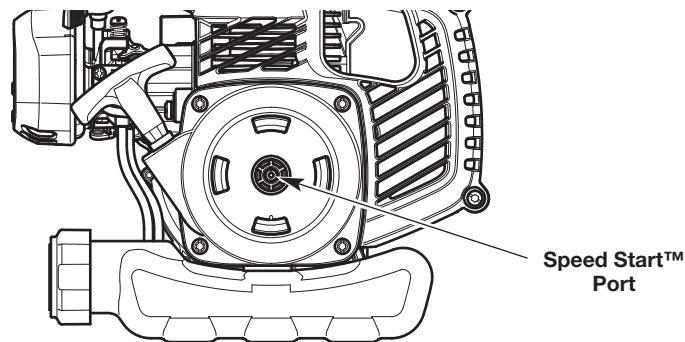

Fig. 17
6. **DO NOT** squeeze the throttle control. Insert the Speed Start™ accessory into the Speed Start™ port (Fig. 17). Refer to the *Operation* section of the Speed Start™ accessory operator's manual.